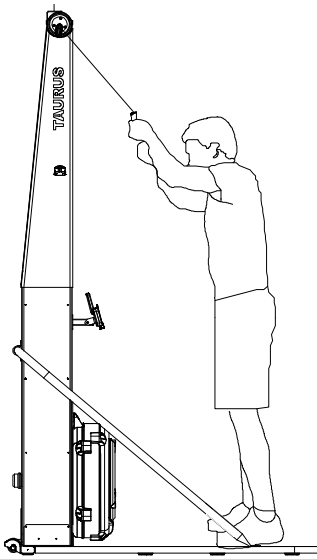

Fig. 21
2. Raise your hands above your head and bend your arms slightly. (Fig. 21).